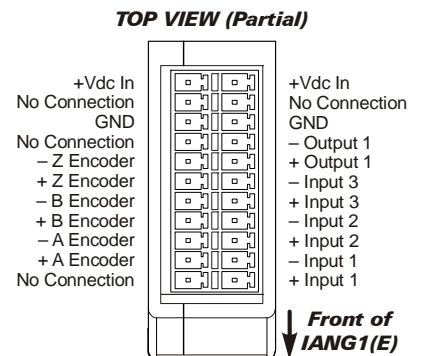

Figure R1.3 I/O Connector
As shown in figure R1.3, the I/O connector is located on the top of the module. All digital I/O connections are made at this connector as well as the power supply connections. The mating connector is supplied with the IANG1(E) and is also available from IDEC under the part number IMS-2X11. It is also available from Phoenix Contact under their part number: 173 88 98.